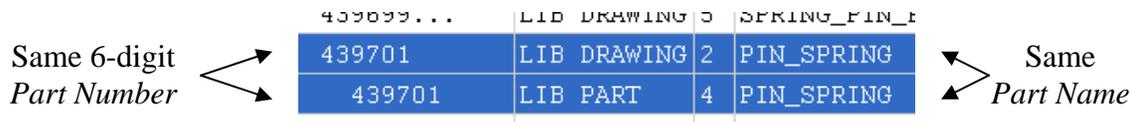

Figure 1: Item Numbering/Naming Example
1. All *Items* shall have a numeric 6-digit Fermilab in the *Part Number* field or be left blank if it does not have a 6-digit number assigned to it. Letters and special characters are not allowed. See Figure 1.
2. *Item Masters* shall have the same 6-digit *Part Number* as their related *Item Master Drawings*. See Figure 1.
2. Item Masters shall have the same Part Name as their related Item Master Drawings. See Figure 1.